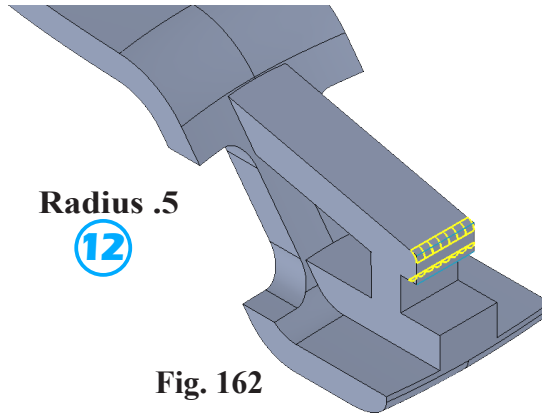

Fig. 162
⑫ **Radius**  .5
click **both rear edges catch (2)**, Fig. 162